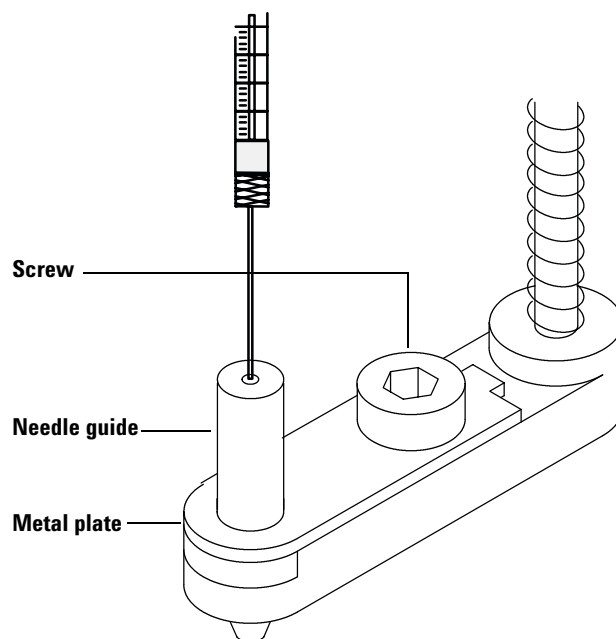

Figure 10 The needle guide
- 4 Pass the syringe needle through the hole of the small needle guide in the needle support foot (Figure 10).